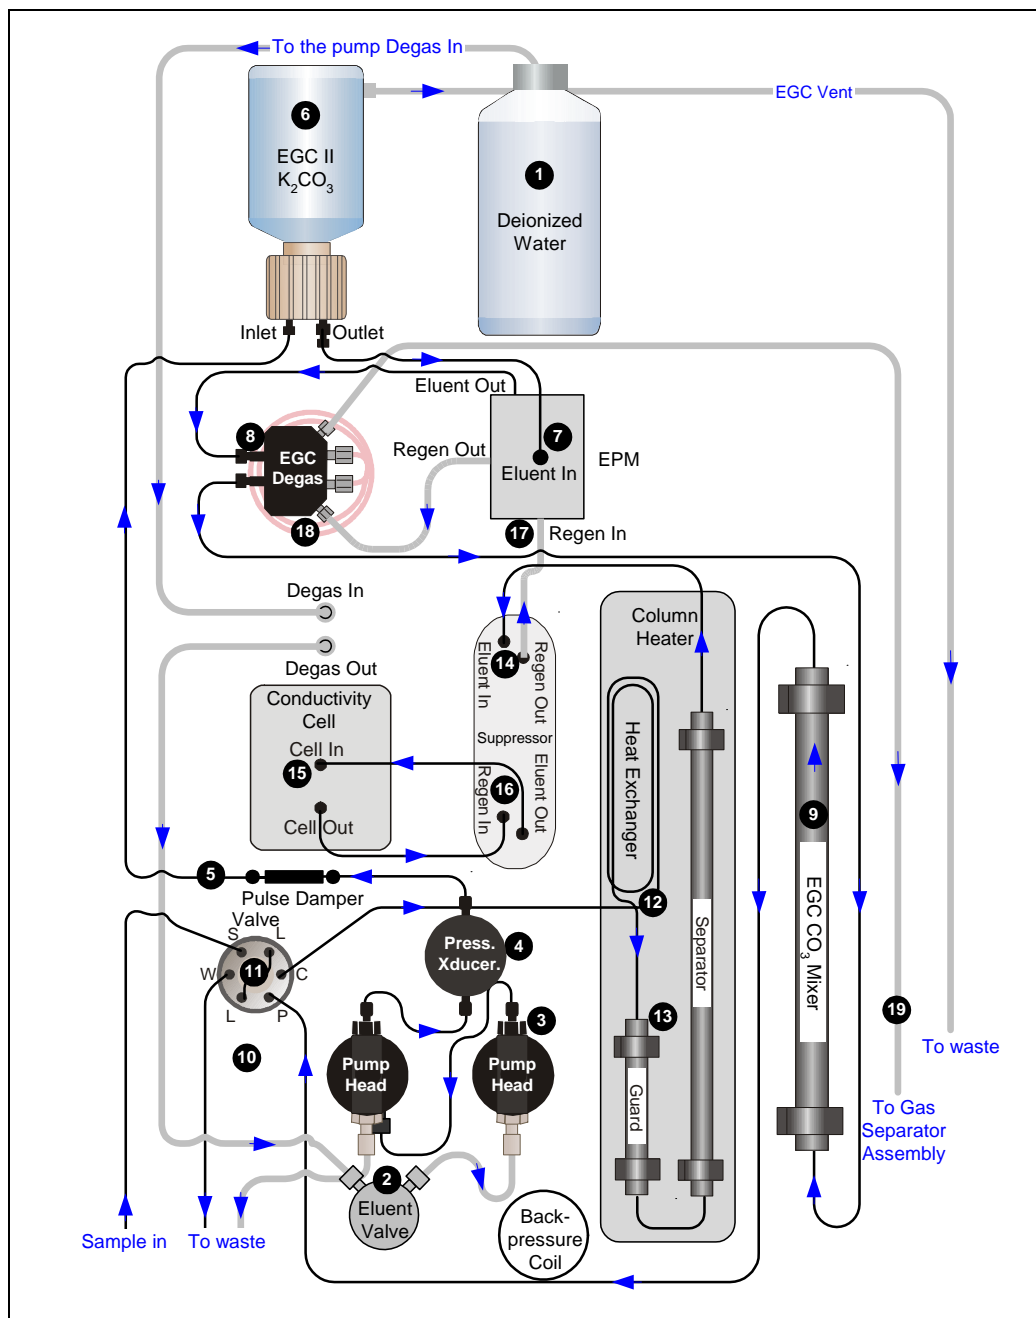

Figure 2-14. ICS-2000 Flow Schematic: Carbonate/Bicarbonate Eluent Generation
- Figure 2-14 illustrates the liquid flow path when the components required for producing carbonate/bicarbonate eluent are installed. The required components include an EGC II K2CO3 EluGen Cartridge, an EPM Electrolytic pH Modifier, and an EGC CO3 Mixer.
Refer to Figure 2-14 for the flow path number locations.